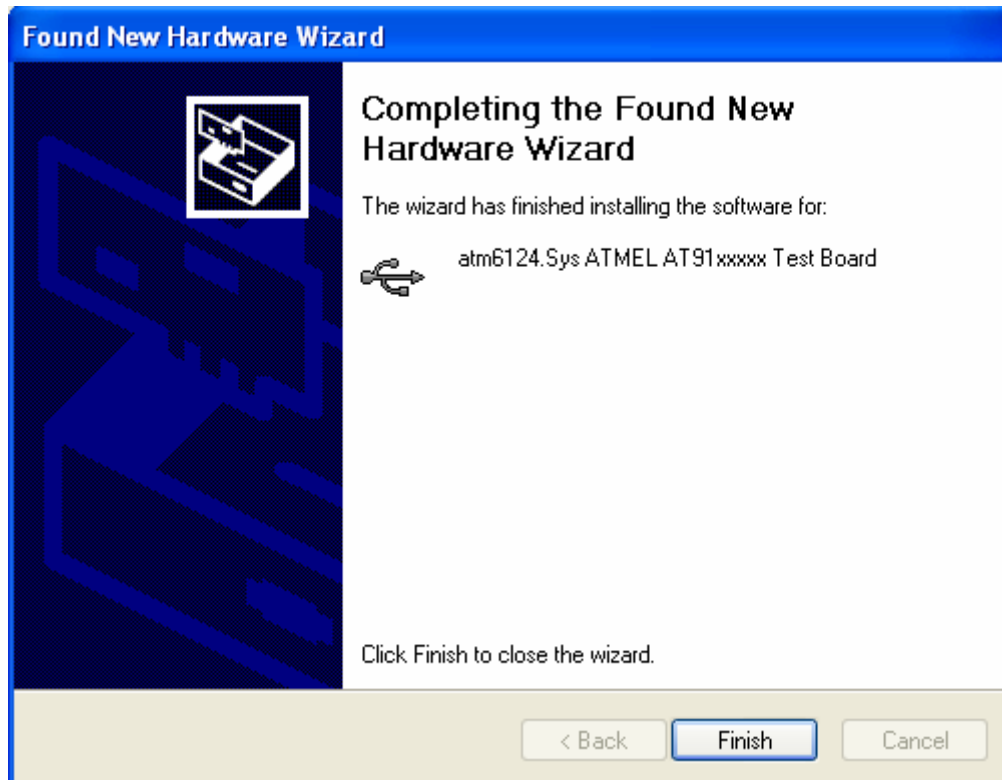

Fig. 09
**Step 9:** Click on “Finish” button. The installation is done. (Fig. 09)